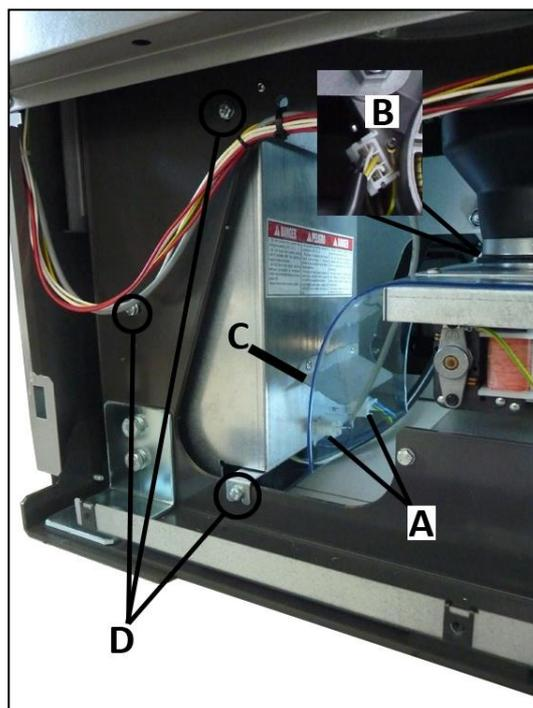

Fig. 3.32
3. Remove the communication and power supply connectors **A**. Do not forget to disconnect the connector **B** from the motor. Once disconnected, remove the protection cover **C** and the screws **D**, thereby releasing the inverter and box assembly (Fig. 3.32).